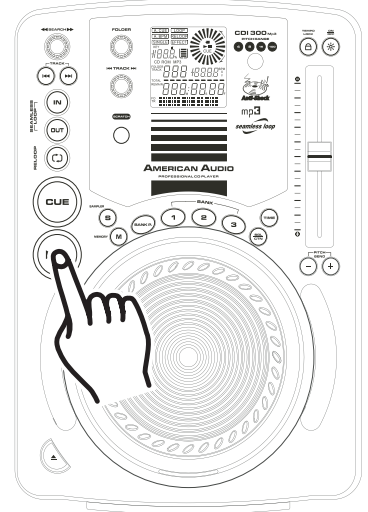
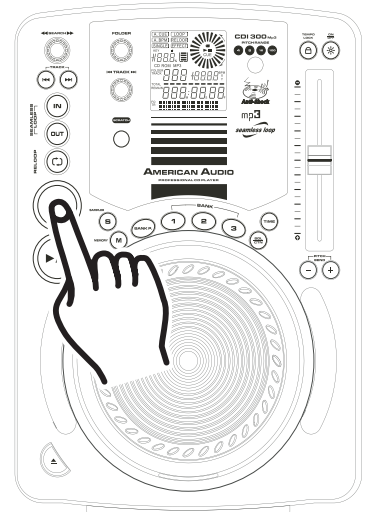
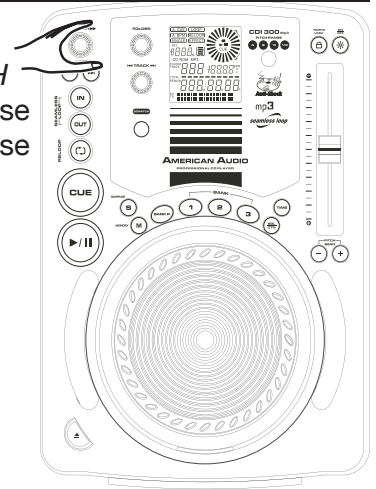

Figure 10
Figure 11
Figure 13
### 3. STARTING PLAYBACK - *Figure 10*
### 5. STOPPING PLAYBACK - *Figures 10 & 11*
### 6. PAUSING - *Figure 10*
This feature allows you to scroll through a track frame by frame, allowing you to find and set a starting cue, sample, or loop point. To use the scroll function you must first be in Pause Mode (see section 6) or Cue Mode (see section 9). Once you are in Pause or Cue mode, turn the *JOG WHEEL (10)* to scroll through the track (Figure 13). Turning the wheel in a clockwise direction will advance the frame search and turning the wheel in a counter-clockwise direction rewinds the frame search. When you use the *JOG WHEEL (10)* the monitor (headphone level) function allows you to hear what you are scrolling through. Once you reach your desired starting point you can set a cue (starting) point by pressing the *PLAY/PAUSE BUTTON (15)* as in Figure 10. Pressing the *CUE BUTTON (17)* as in Figure 11 will now return you to the point you just set.